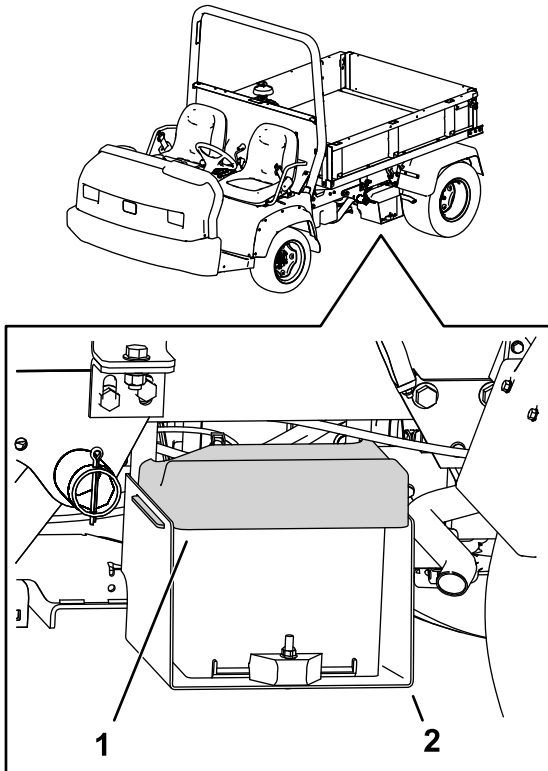

Figure 5
1. Remove the tabs of the battery cover from the slots on the battery tray and remove the cover (Figure 5).